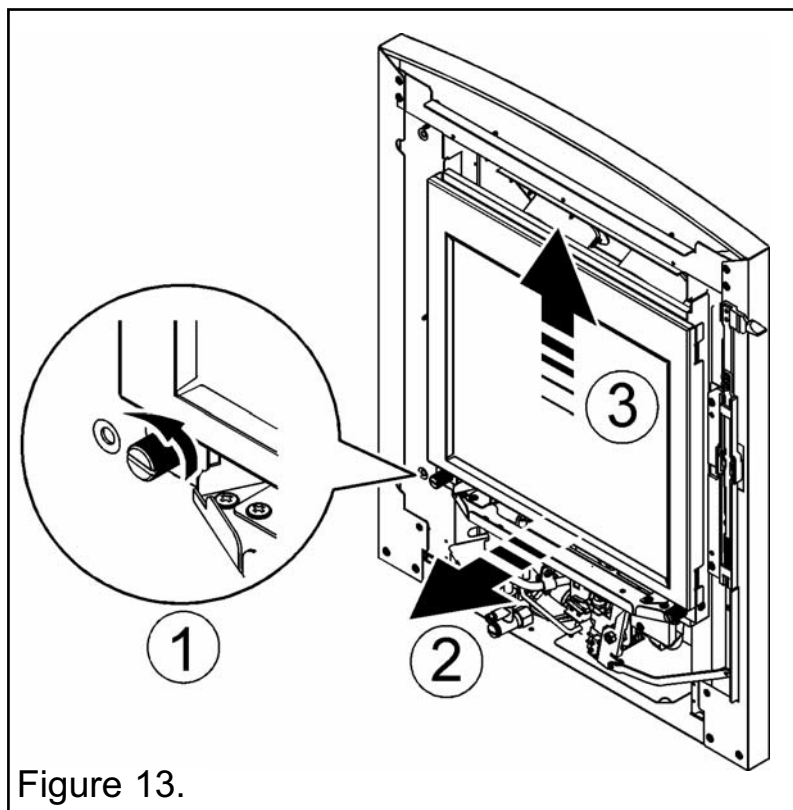

Figure 13.
**2.** Detach and remove the window assembly. To do this unscrew and remove the two thumbscrews at the base of the window assembly. Gently lift the window assembly upward and forward (See figure 13). Place the window assembly and thumbscrews in a safe place away from the work area.